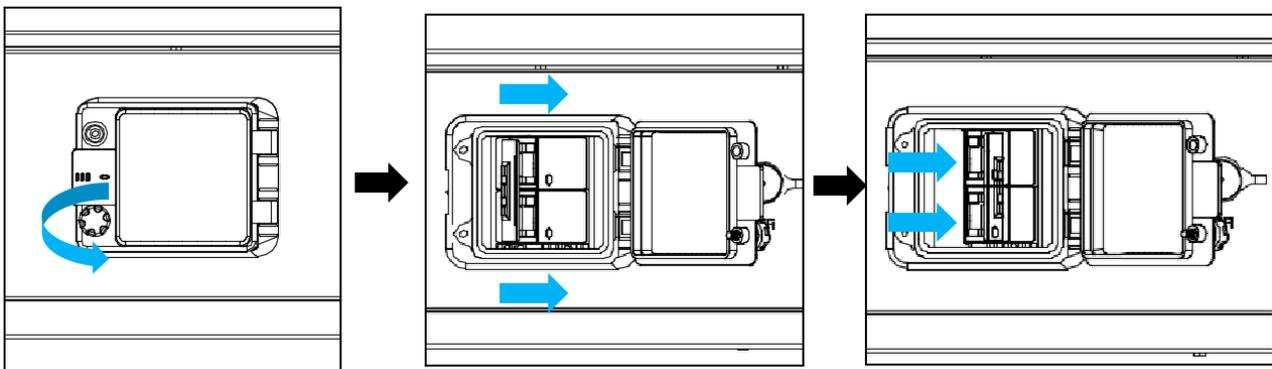

Fig. 4.4.1 Procedure for opening the circuit breaker protective cover
Step1. Open the circuit breaker protective cover and turn on the circuit breaker to “ON” side refer to Fig. 4.4.1